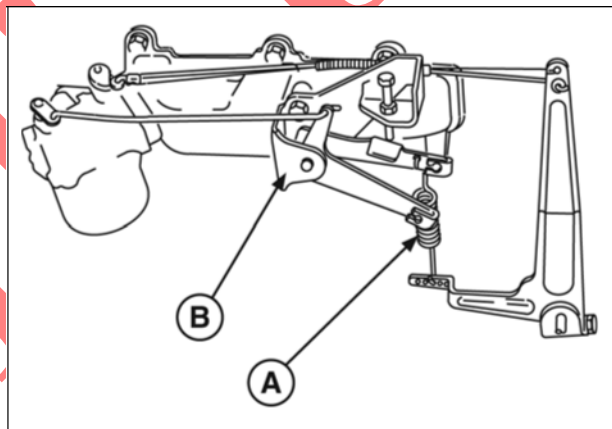

Figure 2
5. Disconnect governor spring (A, Figure 2). Remove two screws and governor control bracket (B) from intake manifold.